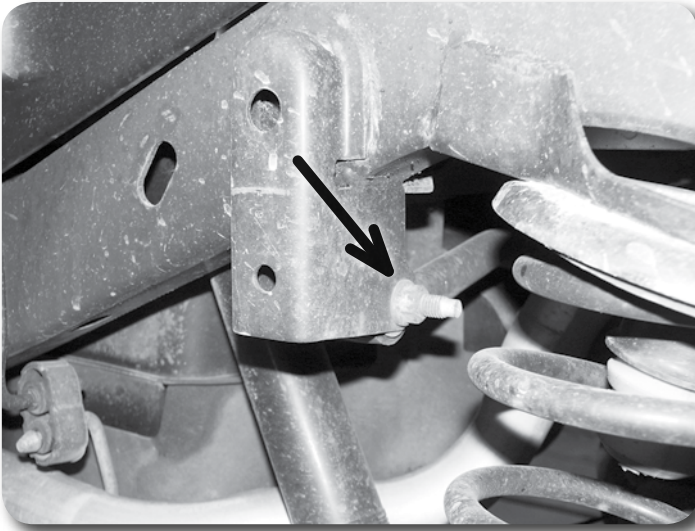

Figure 9
1. Disconnect the rear track bar from the passenger's side frame mount (Figure 9). Save hardware.